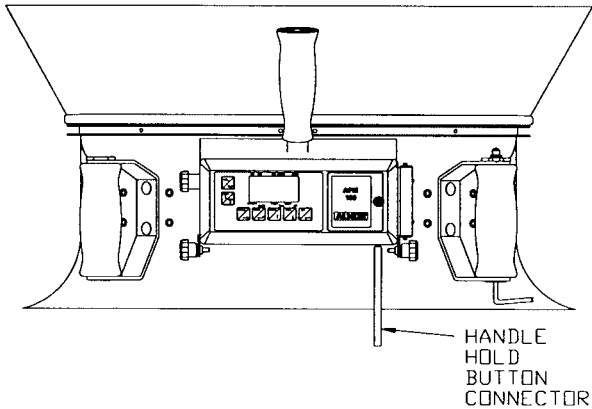

Figure 6—Hold button connector attachment
Step 9: Verify that the handle hold button connector is plugged into the sensor module as shown in Figure 6.